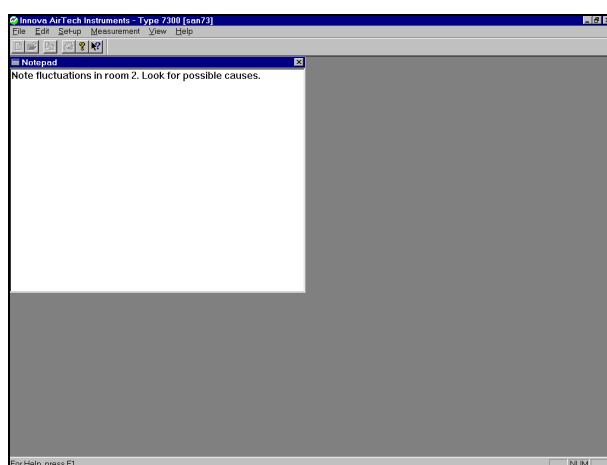

Fig.5.17 The Notepad window
1. Pull down the **View** menu. Click on **Notepad window**. The notepad window will be displayed, Fig.5.17.